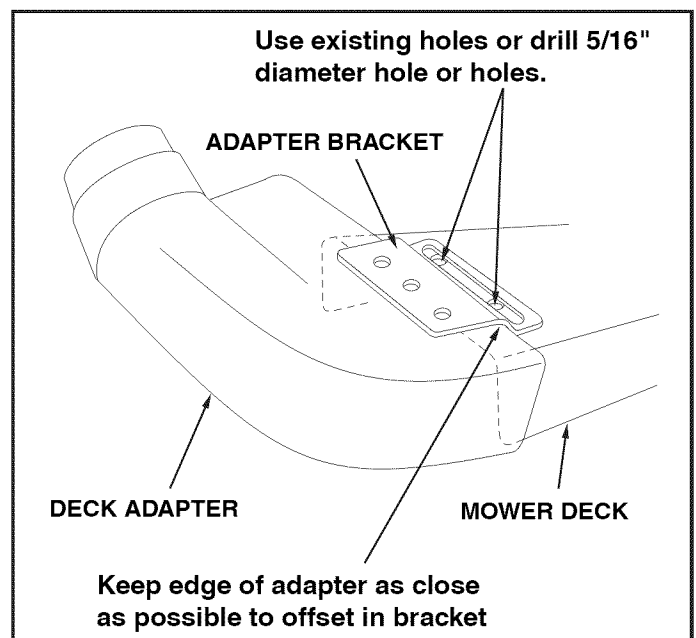

FIGURE 27
- Holding the adapter bracket and the deck adapter together, position the deck adapter on the mower deck. Keeping the edge of deck adapter as close as possible to the offset in the adapter bracket, see if the slot in the adapter bracket can be aligned with one or two of the deflector holes in your mower deck's discharge opening. If the bracket can not be located correctly using existing holes, it will be necessary to drill one or two 5/16" diameter holes in the deck. See figure 27.